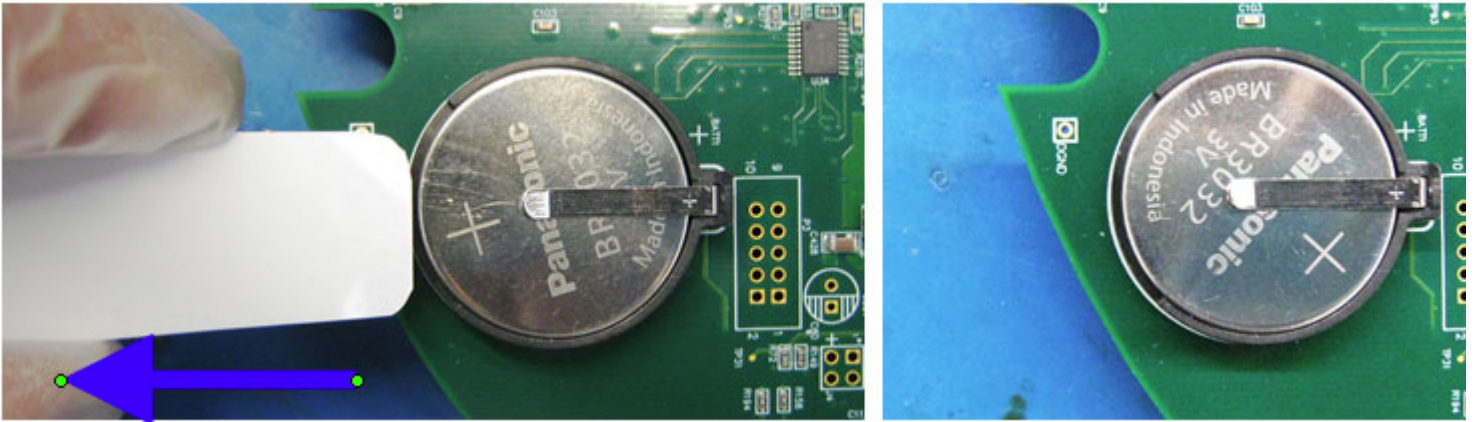

Figure 3-19: Removing the Battery Insertion tool and Battery Installed Correctly
14. Gently pull the battery insertion tool out from under the installed battery and make sure the battery is fully installed into the holder. See Figure 3-19